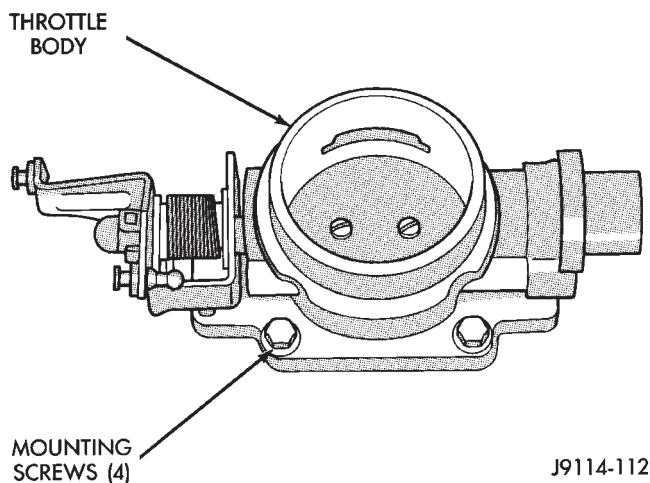

Fig. 14 Throttle Body—Removal/Installation
(5) Remove throttle body mounting bolts, throttle body and gasket. Discard old gasket (Fig. 14).